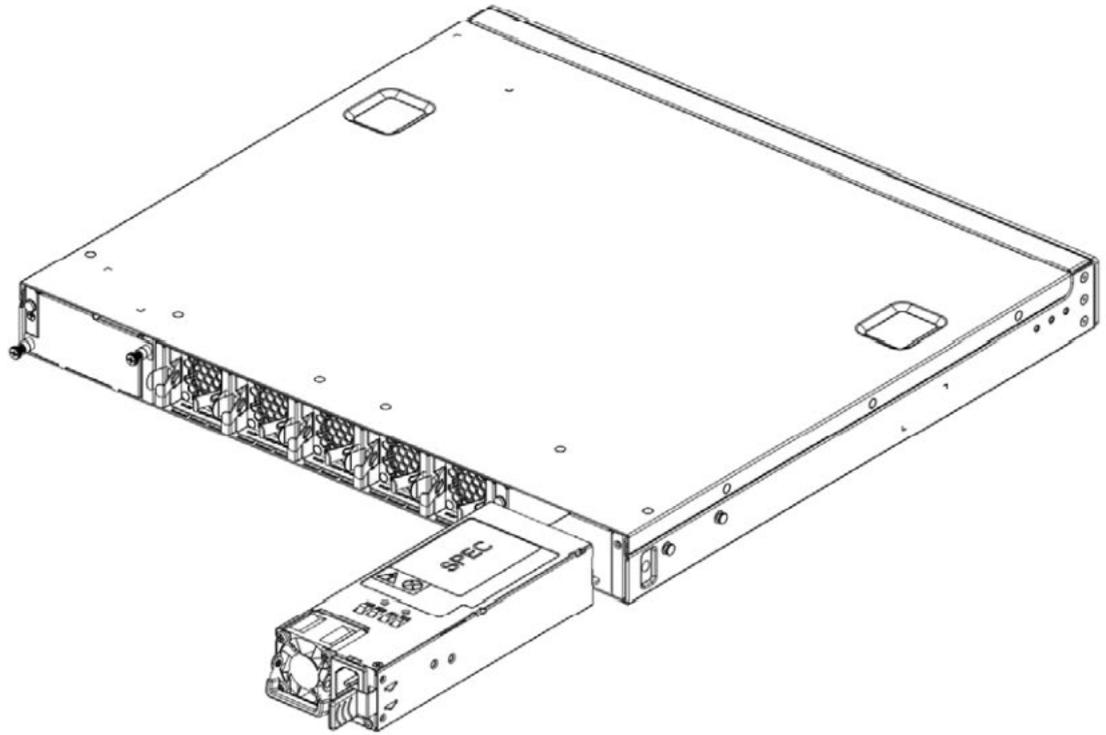

Figure 5: Installing the power module
- Put the power module into the power module slot of the device. See Figure 5.